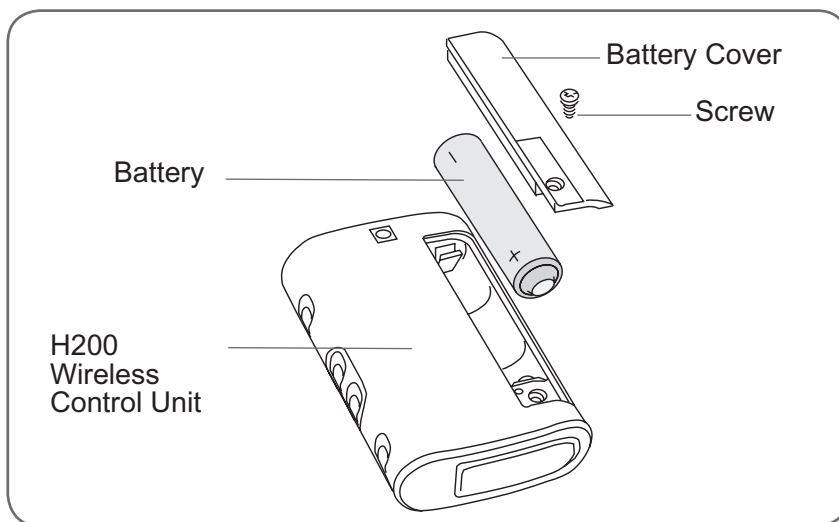

Figure 11-1: Replacing the H200 Wireless Control Unit battery.
1. Using a Phillips screwdriver, remove the screw from the battery cover on the back of the H200 Wireless Control Unit. See Figure 11-1.